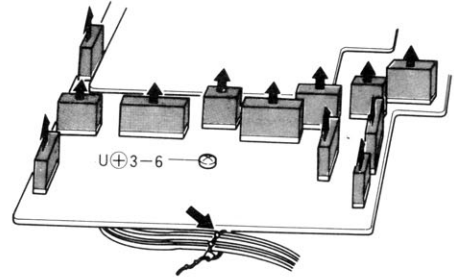

Fig. 21
- 1) Remove 12 connectors. (Refer to Fig. 21)
- 2) Cut the cable and remove 5 screws. (Refer to Fig. 21 and 22)